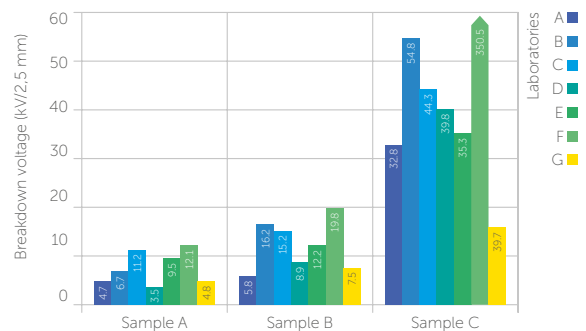

Figure 6. Reliability and Improvements of Water Titration\*\*\* by the Karl Fischer Technique
6. Furthermore, oil samples can be contaminated at the sampling time or in the laboratory. As the moisture level is anyway very low in oil, any contamination (simple contact with the ambient air) will affect the sample PPM result. The chart (figure 6) shows PPM analysis results of 7 different laboratories on 3 different oils.